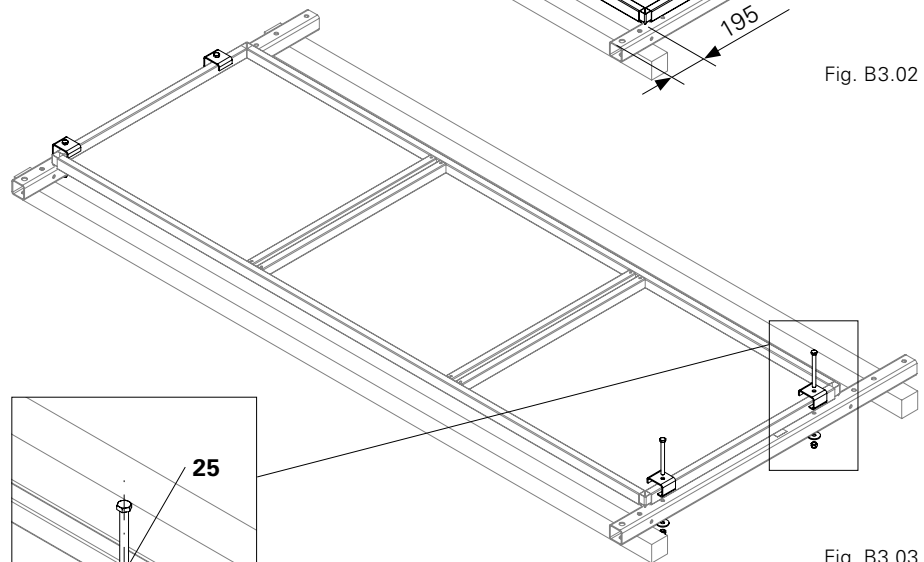

Fig. B3.03
3. Fix the Telescopic Screen DX LPS 123 x 373 (20) to the Guardrail Posts RCS-MP (22) at all four places with 1x Mesh Panel Clamp LPS, Single (23), Bolt ISO 4014 M16 x 180-8.8 (25), Washer ISO 7094 100 HV, A16 (26) and Nut ISO 7042 M16-8 (27) each. (Fig. B3.03 + B3.03a)